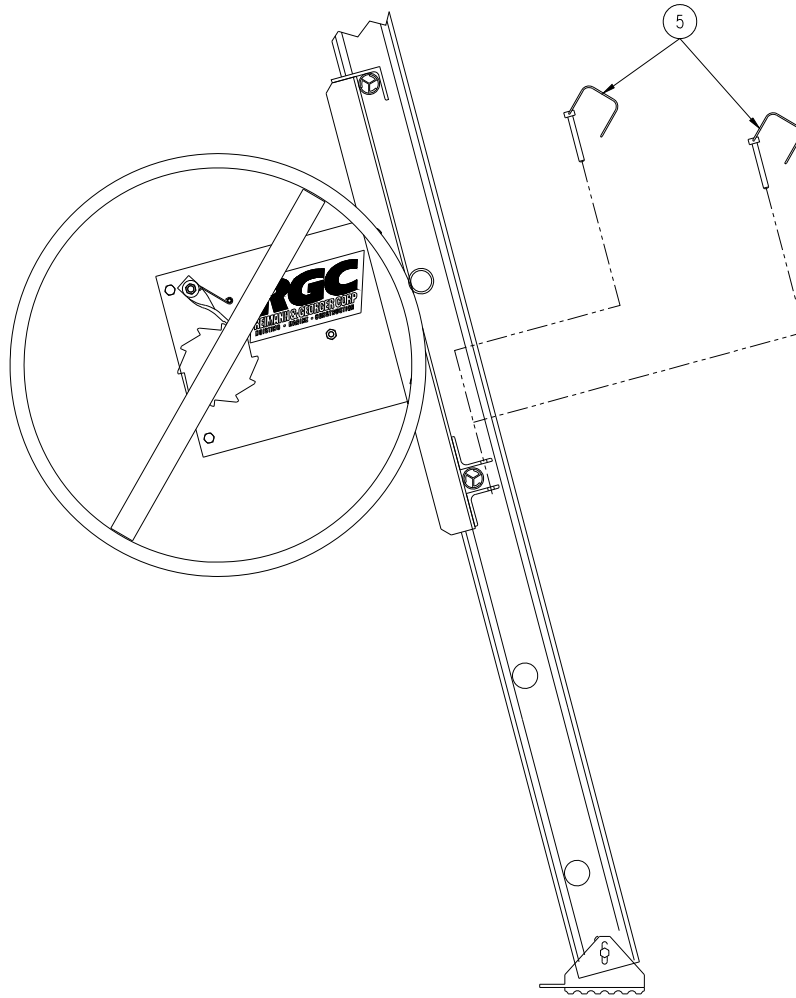

Figure 3.3
3. Position the Handihoist on the 3rd and 5th cross ties from the bottom as seen in fig. 3.3. Note that the 3rd and 5th cross ties are reinforced. The Handihoist should be on the underside of the track. Center the Handihoist between the track rails and lock in place by inserting the lock pins into holes in the Handihoist mounting frame.